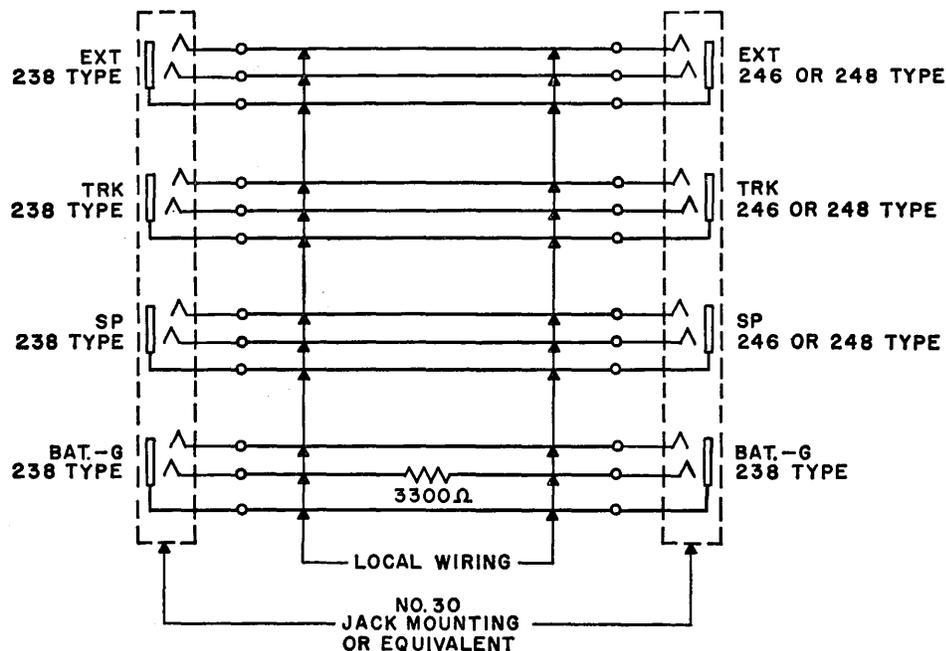

Fig. 1 — Patch Jack Box to Adapt PBX Cord Circuit
2.06 One patch jack box (to adapt the cord circuit test set for use with the 309 plugs of the 608A PBX) consisting of the following apparatus assembled as shown in Fig. 1: